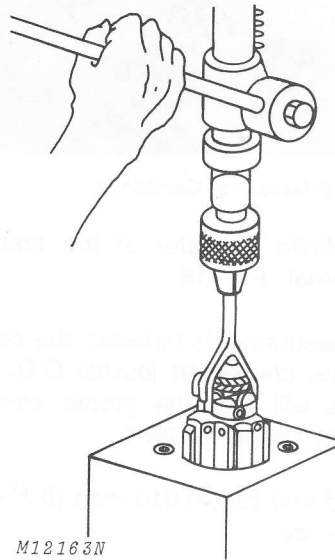

Fig. 21—Honing the Cylinder
6. Start the drill. Move the hone up and down in the cylinder approximately 40 cycles per minute, Fig. 21. Follow the hone manufacturer's recommendations.